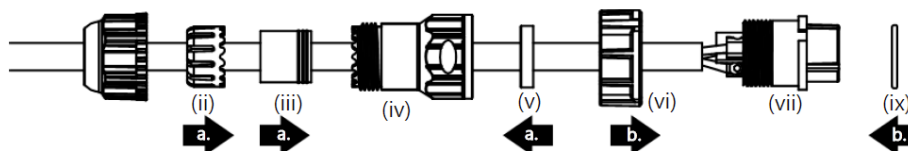

Figure 56: Steps 3 and 4
3. Fit the gasket (v), sealing (iii), and clip (ii) onto the sealing body (iv) (Figure 56).
4. Fit the lock (vi) and o-ring (ix) onto the housing (vii) (Figure 56).